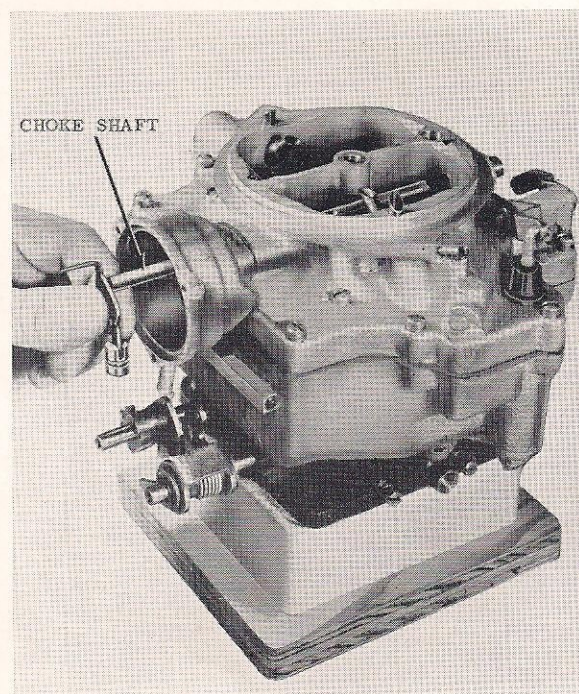

Figure 7-29
14. Assemble choke piston and piston pin to choke shaft, lever, and link assembly. Install choke shaft assembly, through choke housing, into the air horn. (Figure 7-29.) Rotate choke shaft clockwise to assemble piston into choke housing sleeve.